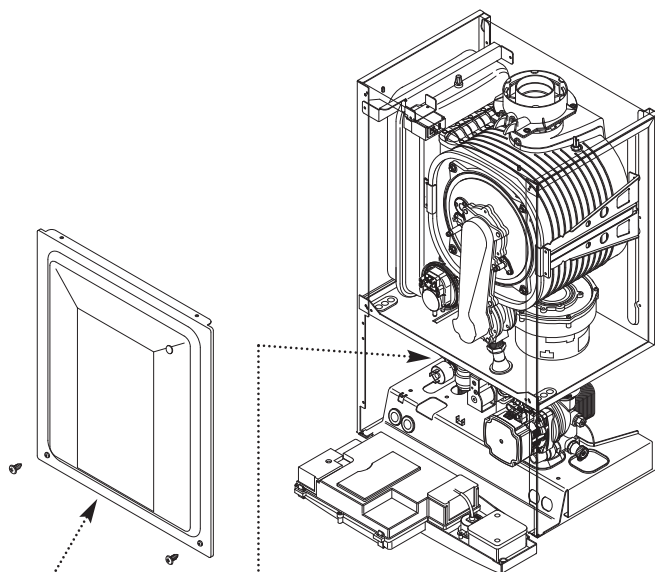

Fig. 53
4. Remove the screws securing the inner door panel. Lift the panel slightly to disengage it from the studs on top of the case (Fig. 53).